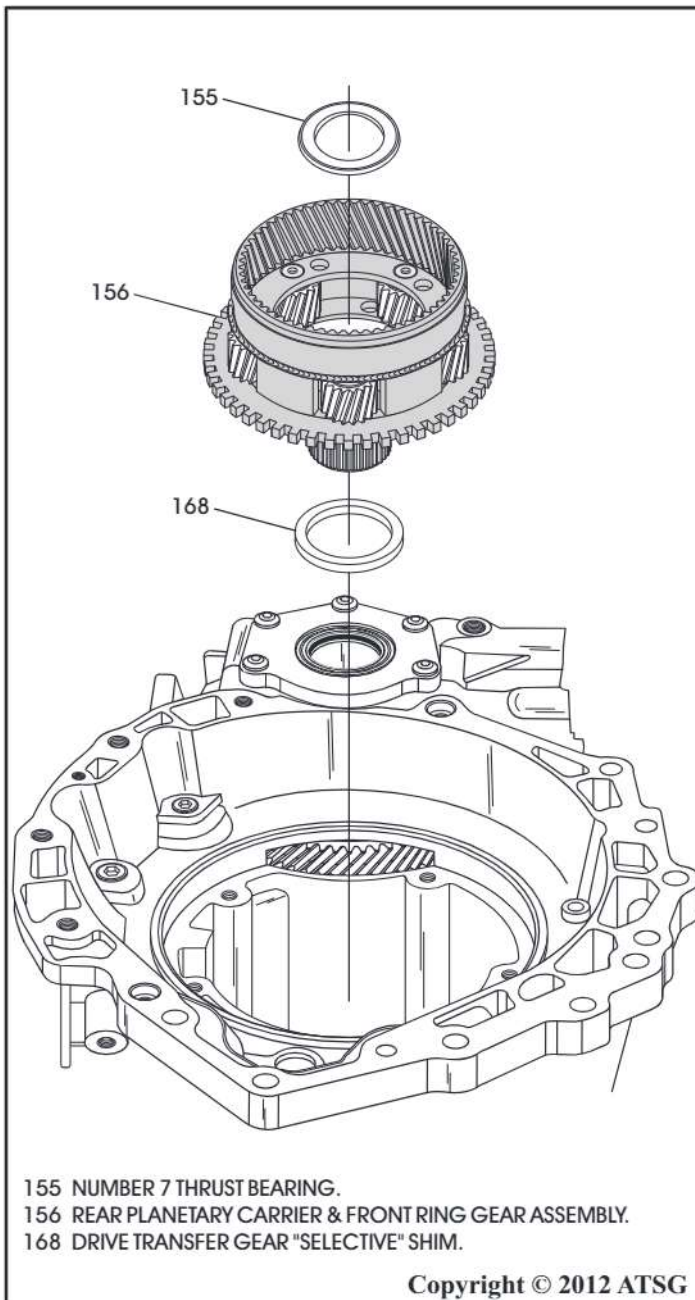

Figure 79
71. Remove the rear planetary carrier assembly and the number 7 thrust bearing from the case, as shown in Figure 79.